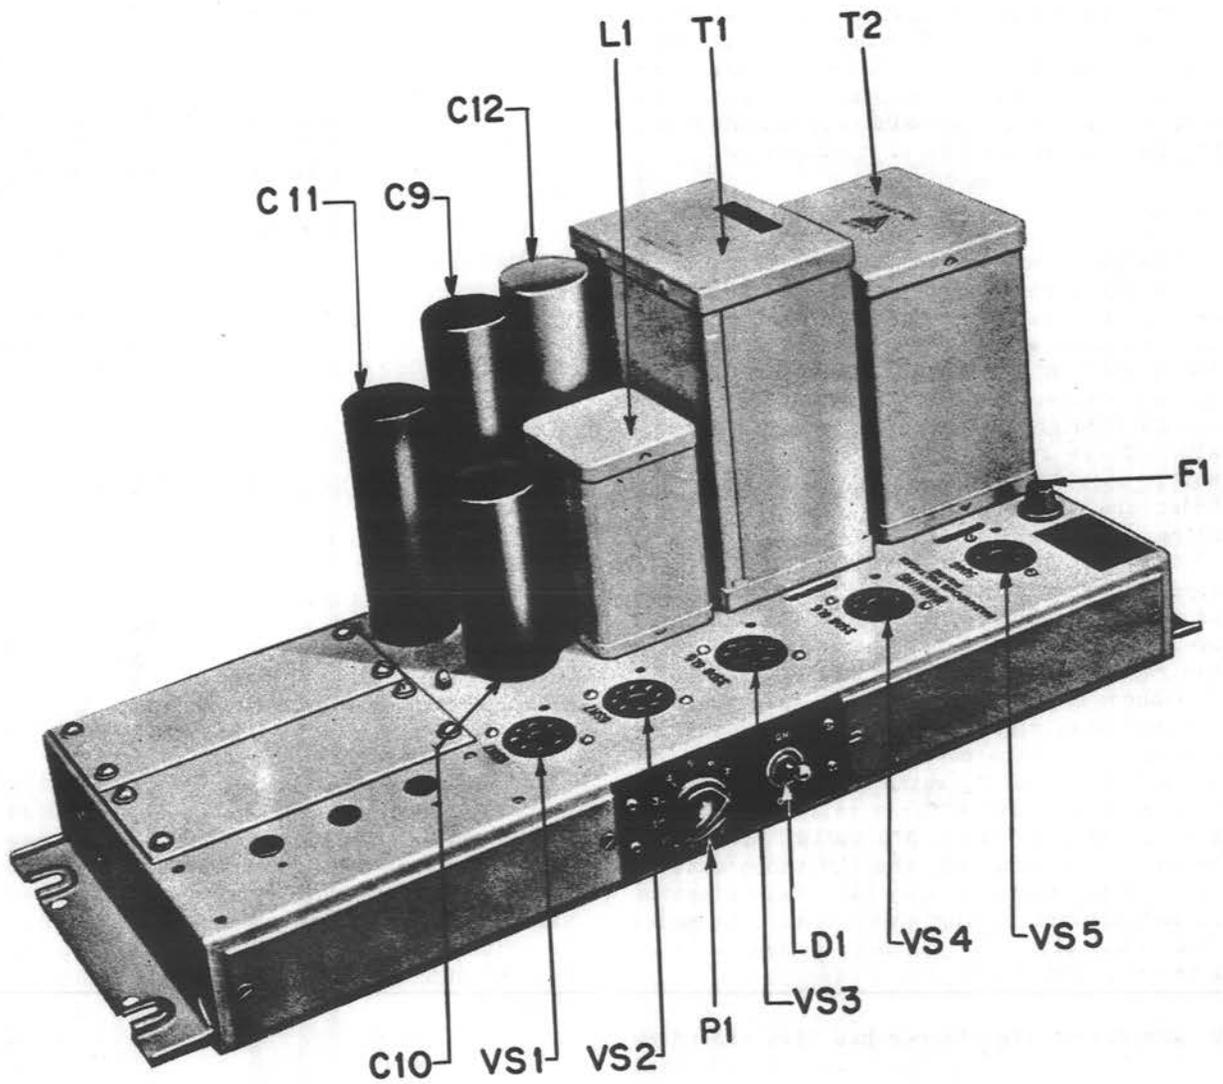

Fig. 1 - 142A Amplifier
1.14 Fig. 1 shows a front view of the 142A amplifier. The other three models are similar in appearance except that additional apparatus units are mounted on the left side of the chassis.